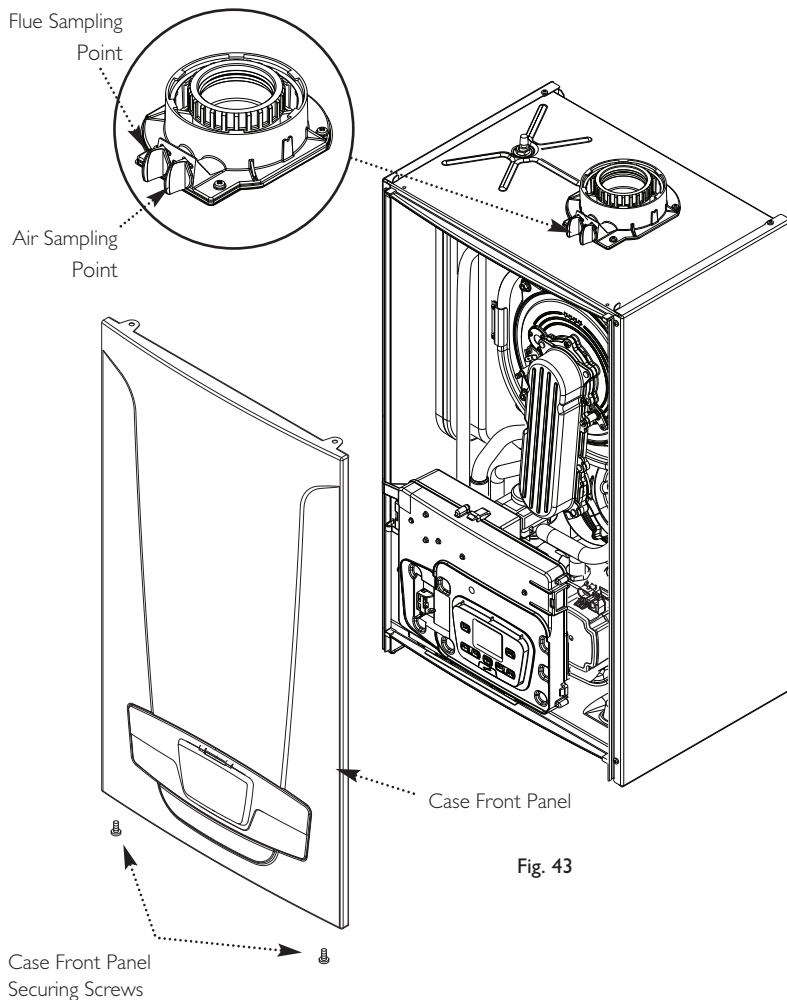

Fig. 43
2. Remove the screws securing the case front panel. Lift the panel slightly to disengage it from the studs on top of the case (Fig. 43) and hinge down the Control Box.